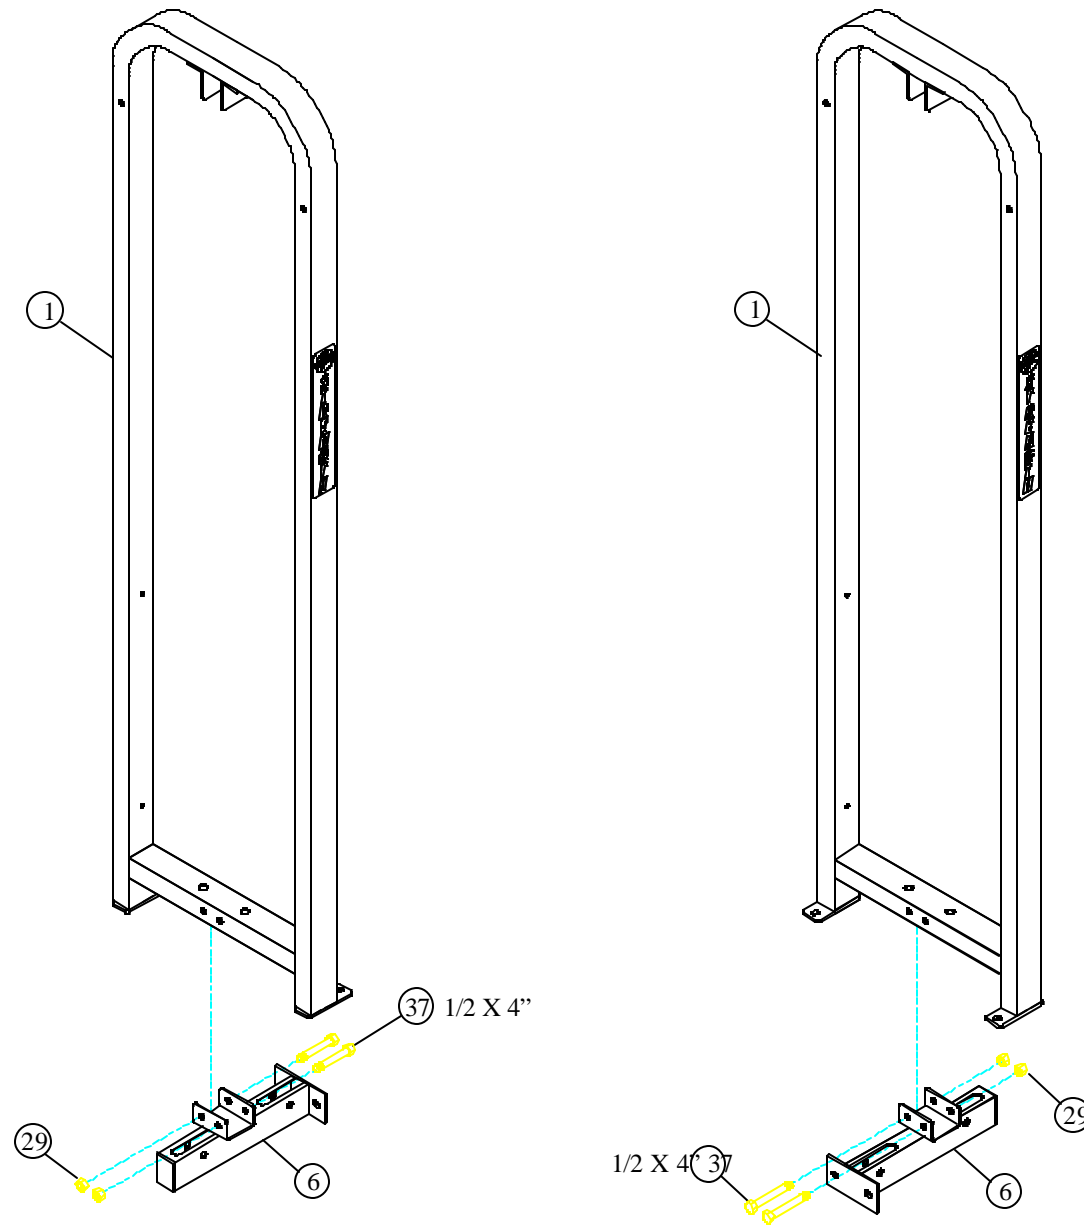

FIGURE 1
- **LOOSELY** assemble the two LOWER PULLEY HOUSINGS (6) to the two TOWERS (1) using four 1/2 X 4" BOLTS (37) and four 1/2" LOCK NUTS (29) as shown in FIGURE 1.